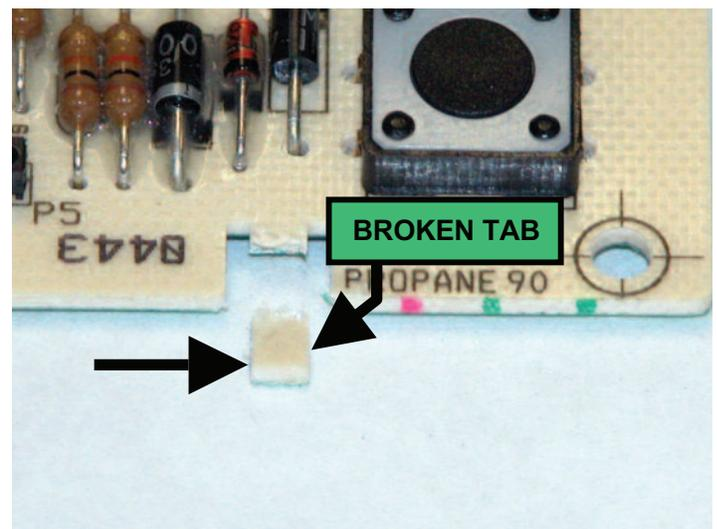

Fig. 9
2. Break off tab with pliers as shown in **Fig. 8 & Fig. 9**.